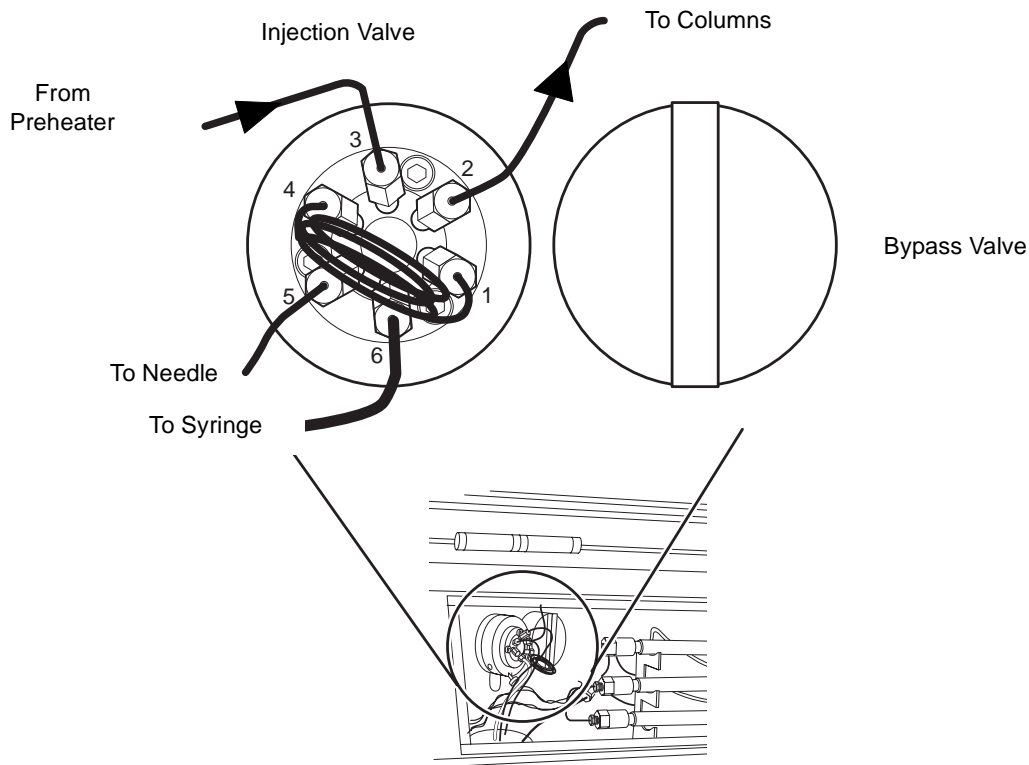

Figure 2-8 Connecting the Columns to the Injection Valve
6. Connect the tubing from port 2 of the injection valve to the inlet of the first column (Figure 2-8).
7. Connect the tubing from the refractometer inlet to last column in the series' outlet (Figure 2-8).